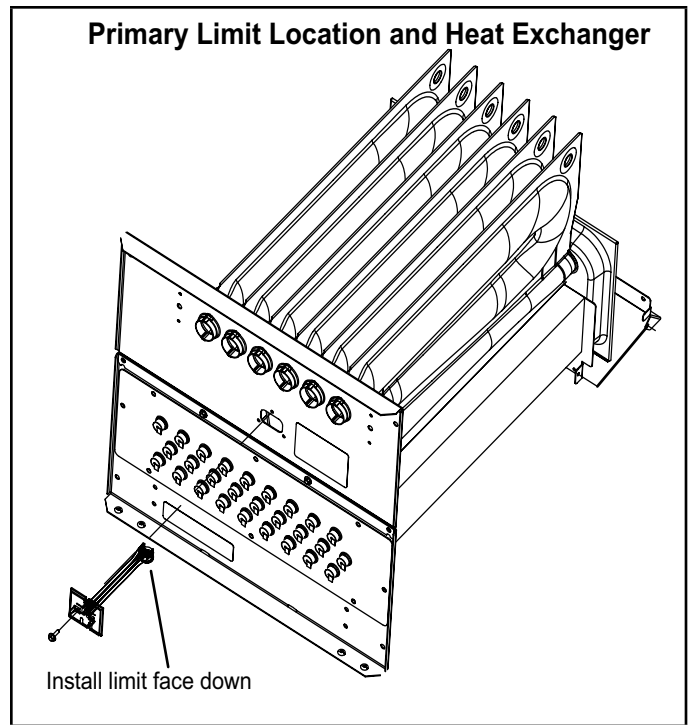

FIGURE 11
2. Heat Exchanger (FIGURE 11)
Primary limit (S10) used on ML197UHEK units is located in the heating vestibule pane (FIGURE 11). When excess heat is sensed in the heat exchanger, the limit will open. Once the limit opens, the furnace control energizes the supply air blower and de-energizes the gas valve. The limit automatically resets when unit temperature returns to normal. The switch is factory set and cannot be adjusted. For limit replacement remove wires from limit terminals, remove mounting screws, rotate limit switch 90 degrees and slowly remove from the vestibule panel. Install replacement limit with same care.